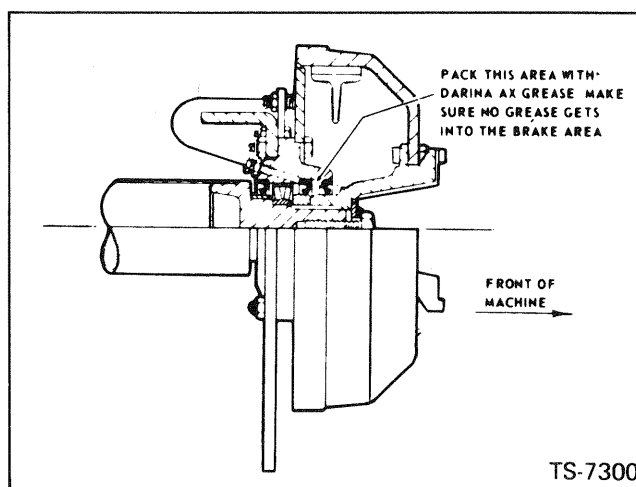

Fig. 13-5
6. Pack the area behind the above removed seal with Darina AX grease. See Fig. 13-5 which illustrates the area to be greased. MAKE SURE that no grease gets into the brake area after the seal has been reassembled.